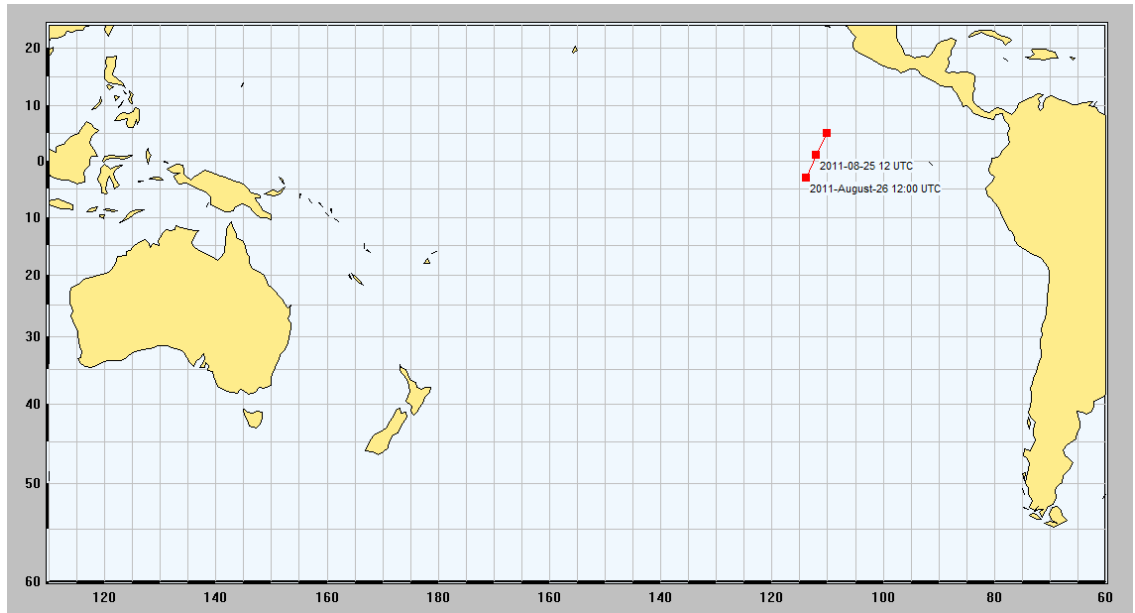

Figure 12 Recent positions chart
- 10.3.6.** A map showing the locations of recent observations as well as the current position is displayed after clicking OK in **Figure 10**. See **Figure 12**.